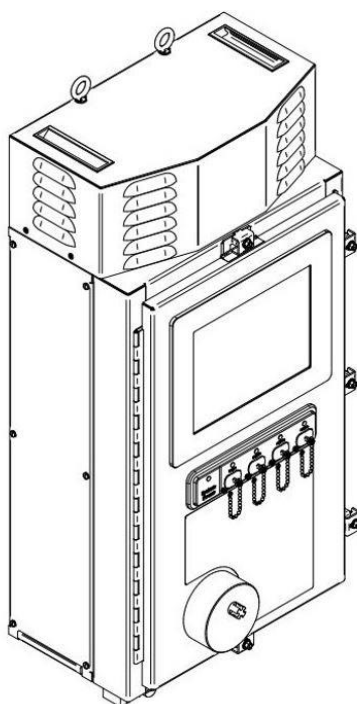

Figure 30. View of the Raman Rxn5 after the box is removed
3. Slide the box up and off the Raman Rxn5 analyzer. The analyzer will remain standing in the foam bottom as shown in Figure 30.